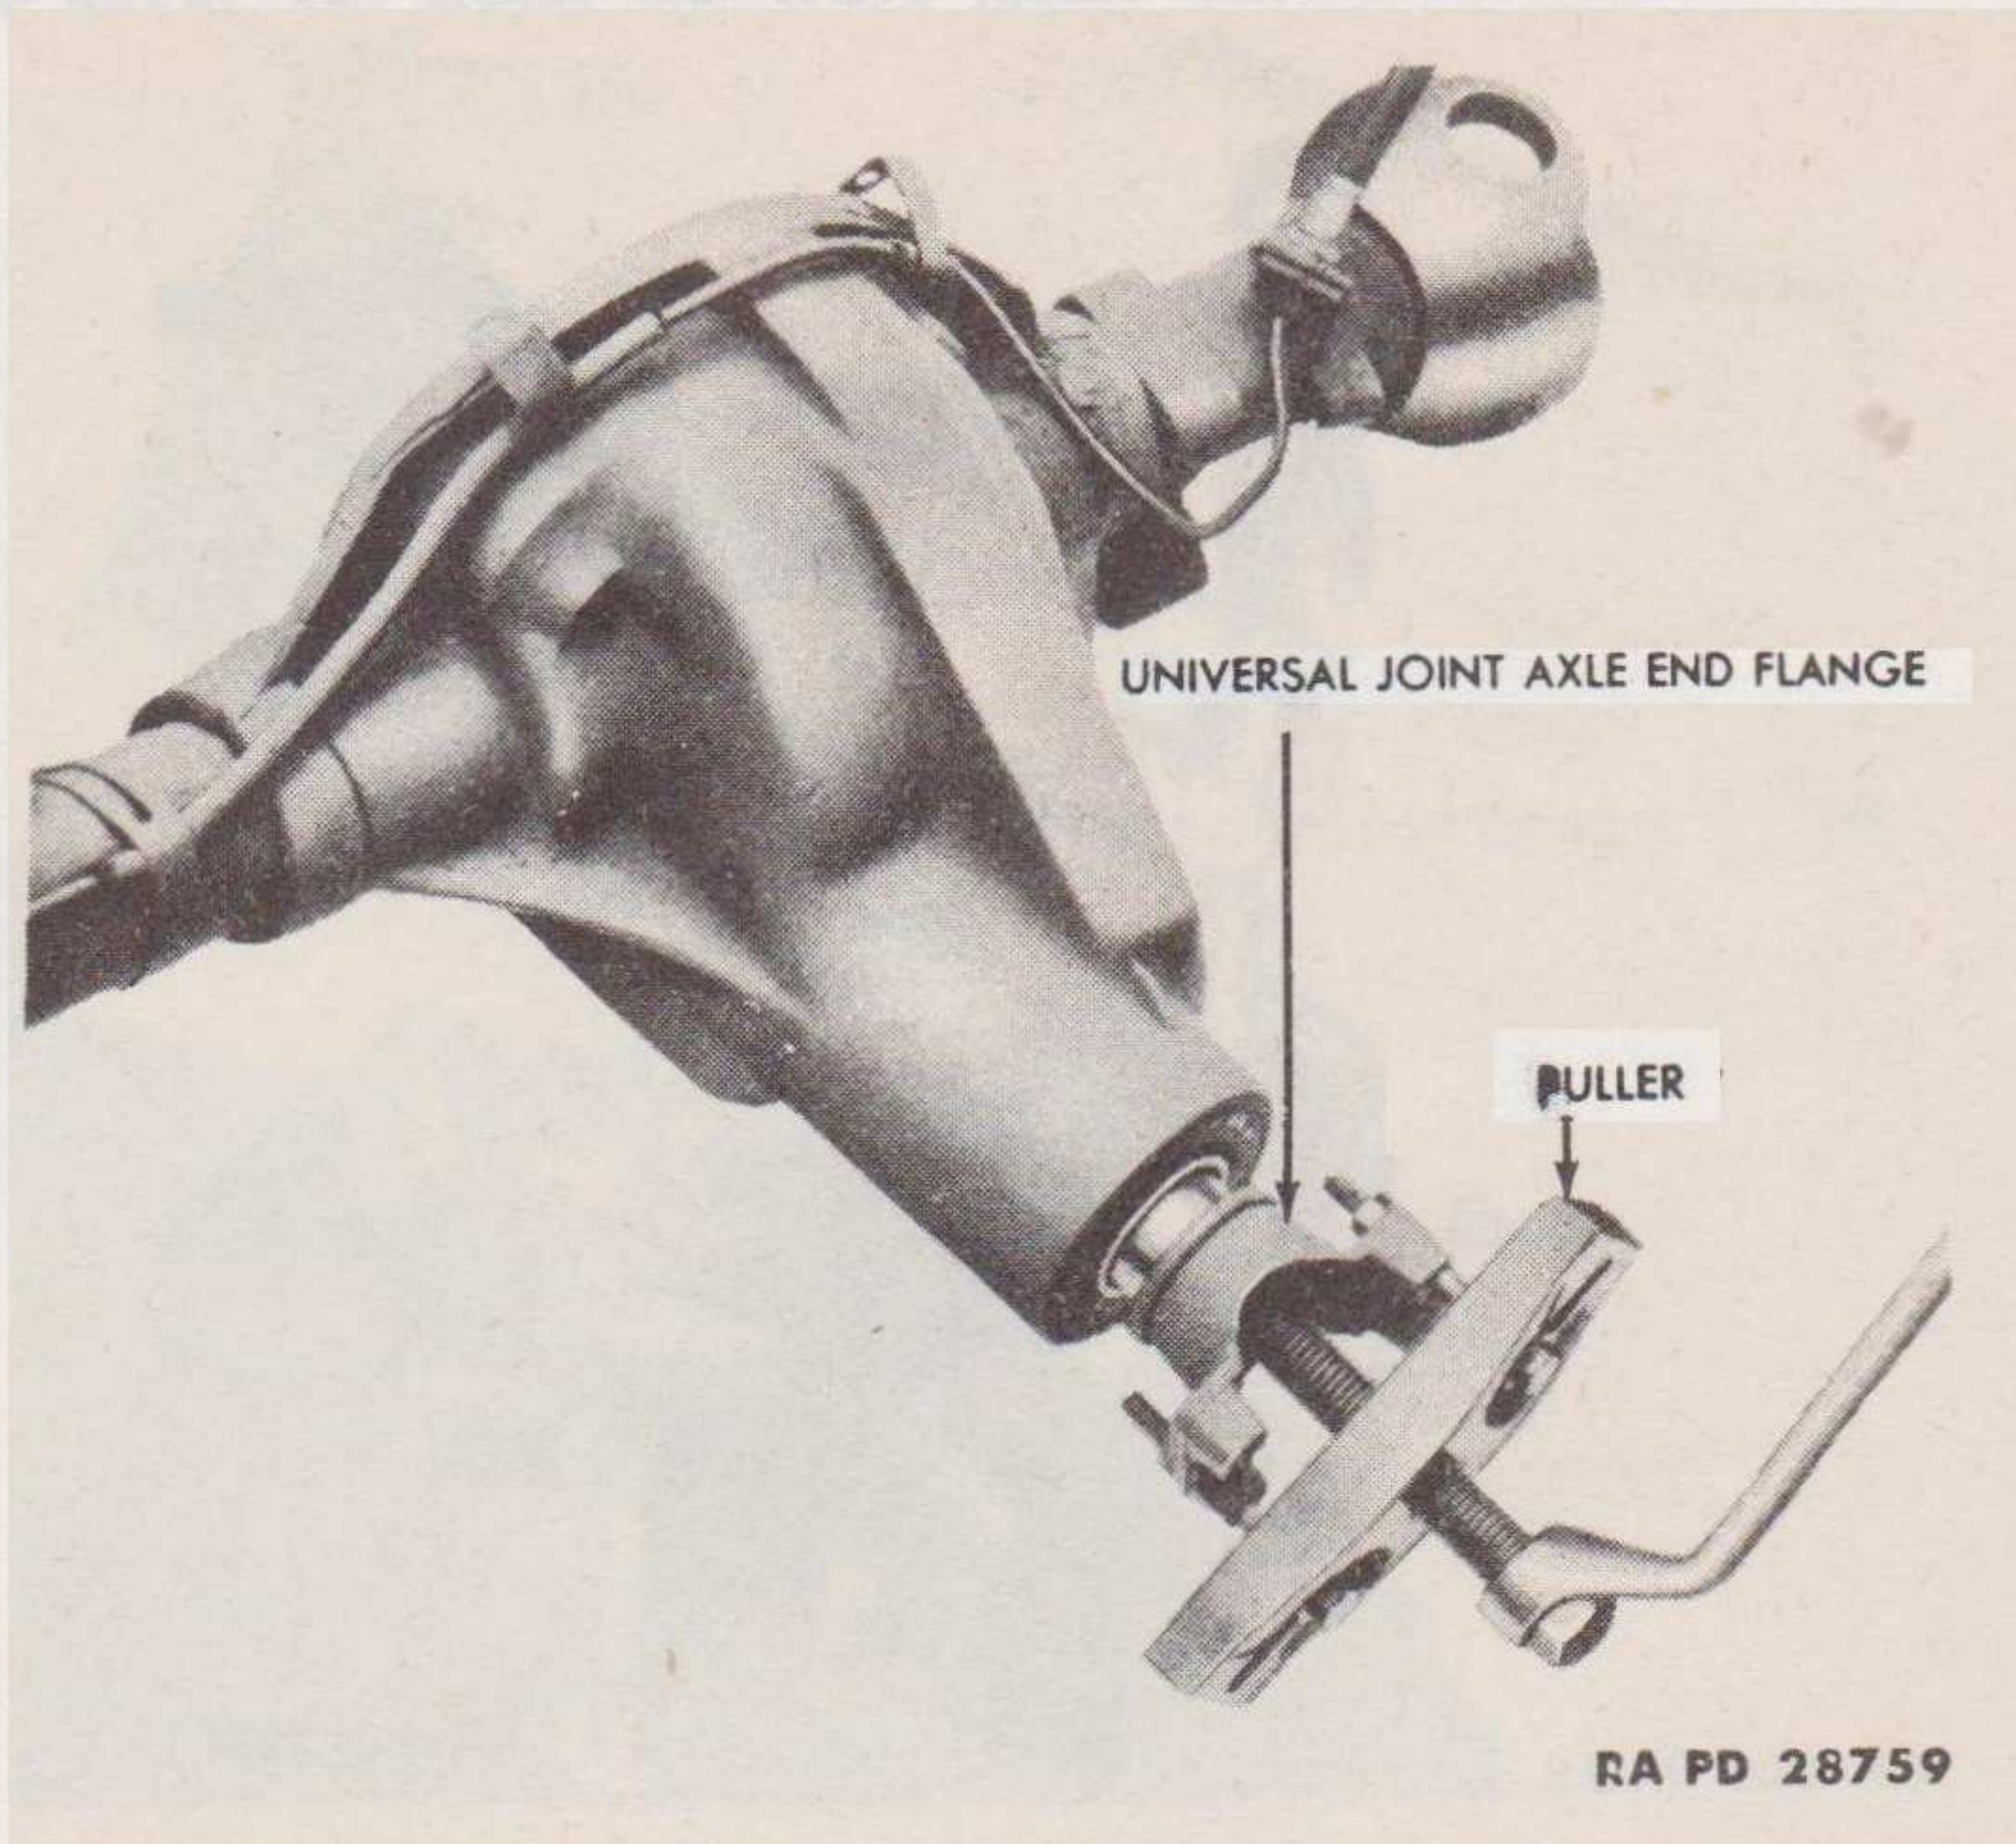
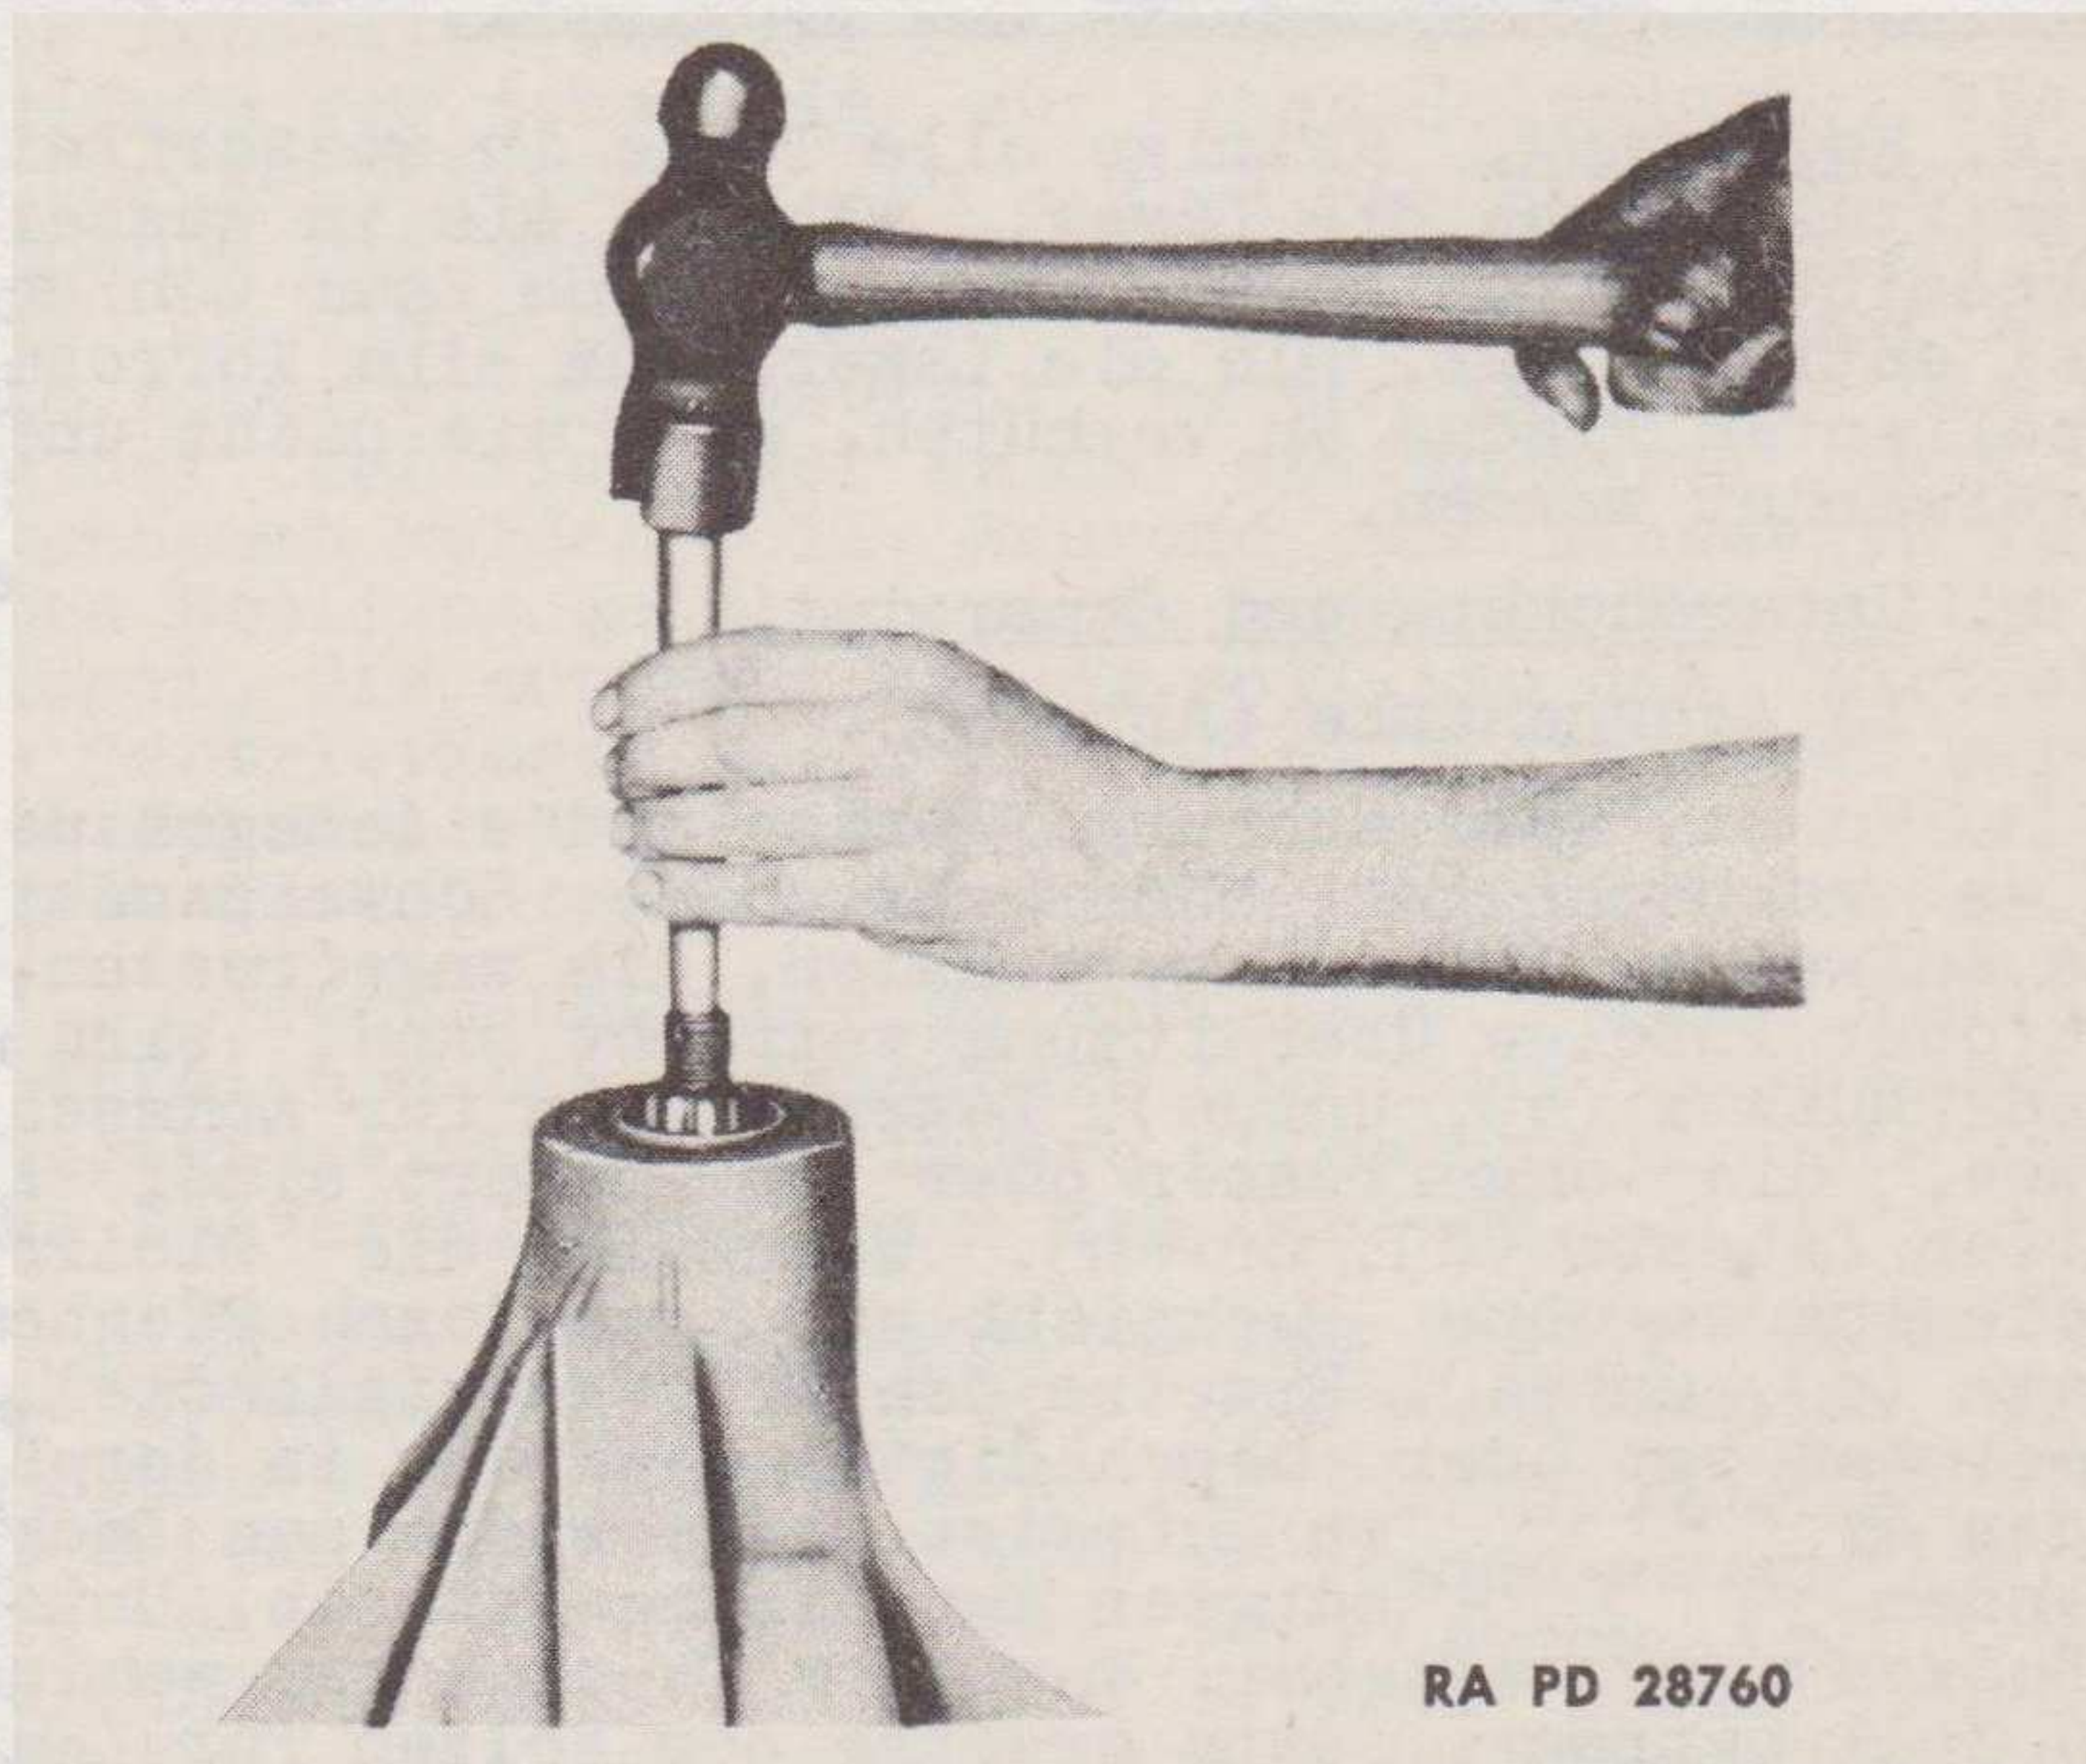

Figure 50 — Removing Universal Joint Axle End Flange With Puller 41-P-2905-60
Figure 51 — Removing Drive Pinion
g. **Remove Drive Pinion.** Remove the nut and flat washer that secure the universal joint flange to the drive pinion. Install the puller 41-P-2905-60 to the universal joint flange (fig. 50) and remove the flange. Using a brass drift and hammer, drive the drive pinion out of the axle housing (fig. 51). Remove the shims and spacer from the drive pinion, noting the thickness of the shims removed from the pinion.